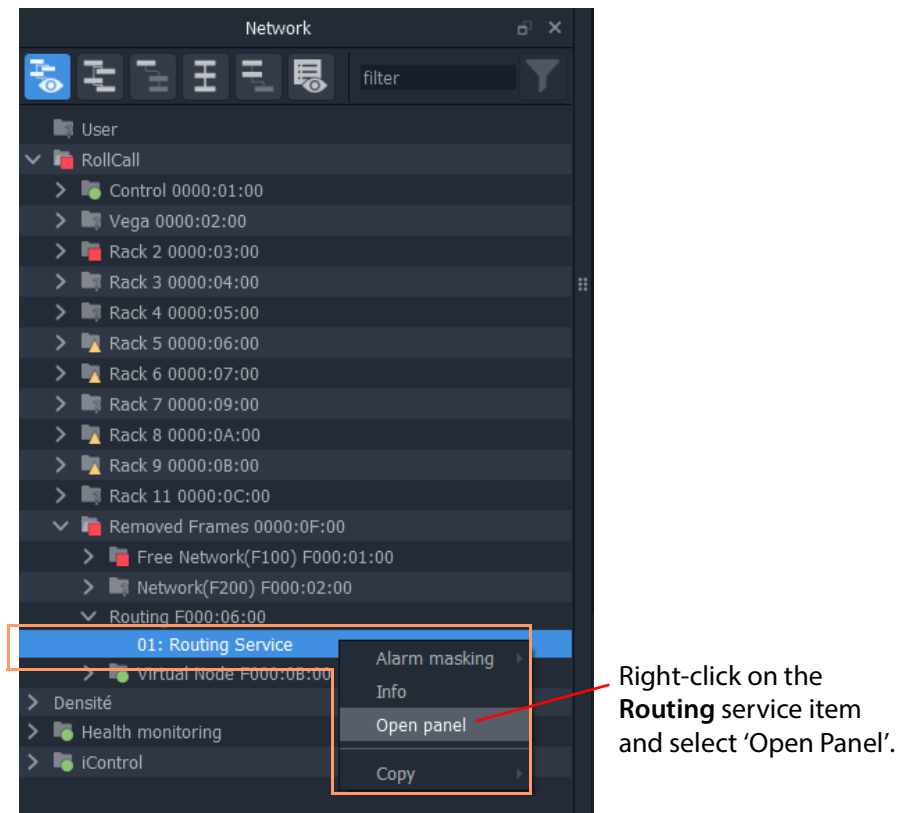

Fig. 12-5: Open a Bulk Routing Panel
- 3 Locate the **Routing** service item in the **Network** window of GV Orbit Client. And right-click on the item and select 'Open Panel'. See Figure 12-5.